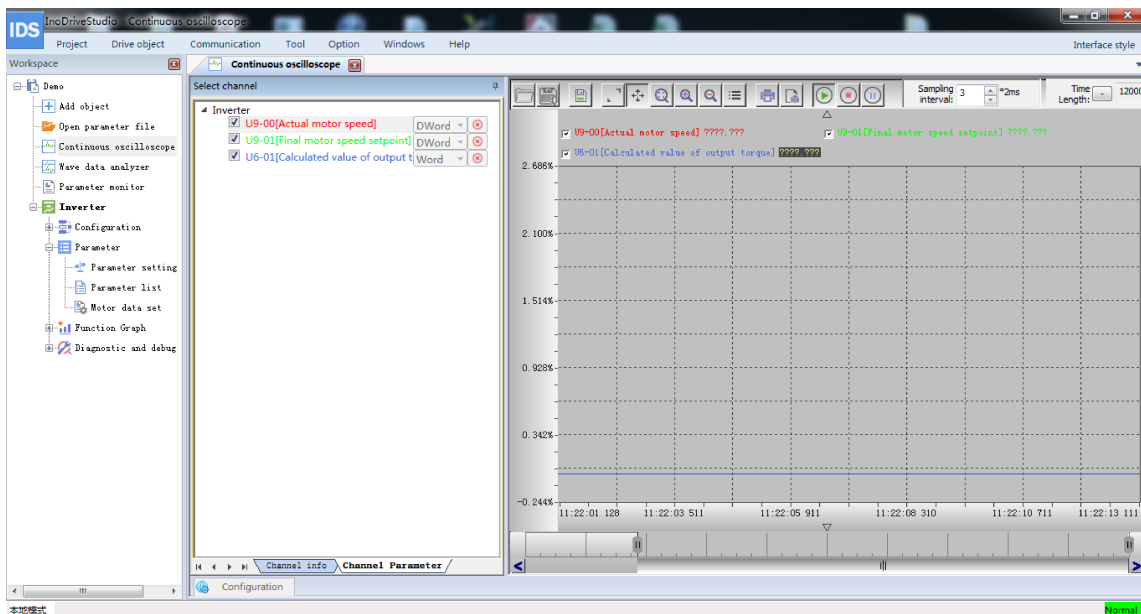

Figure 2-36 Deleting a continuous oscilloscope channel
You can open only one continuous oscilloscope window for each project. In the continuous oscilloscope window, you can record and analyze waveforms of all devices in the current project. In this window, the part marked as ① is used for selecting channels, the part marked as ② is used for displaying the waveform, the part marked as ③ is used for configuring waveforms, and the part marked as ④ is the toolbar, where you can perform operations such as start, stop, pause, and zooming. In ③, input the same value in the field "Group" to display connectors with the same physical quantity meaning to the same coordinate system. Select the Stop icon in ④, click "Channel Parameter", and then select a channel. Then, you can delete the selected channel, as shown in "Figure 2-36" on page 54.